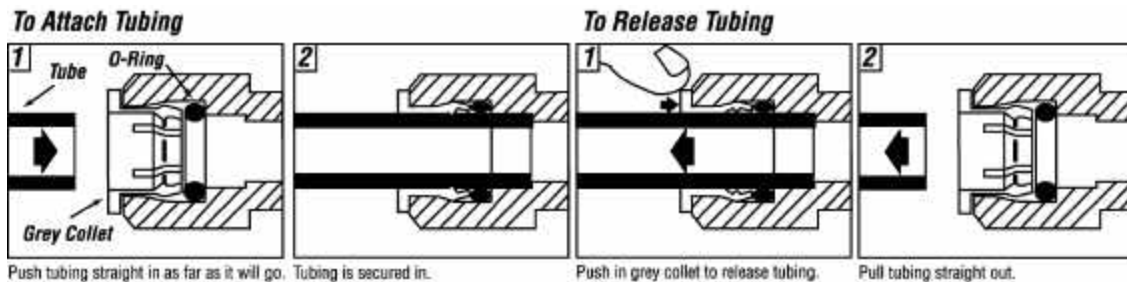

Fig. 6
- 6) Remove the cover from the appliance and disconnect the orange 1/4" tubing from the feedwater fitting. (See Fig. 6)
**NOTE:** If a leak occurs at a "Push In" plastic fitting, then refer to Fig. 6.